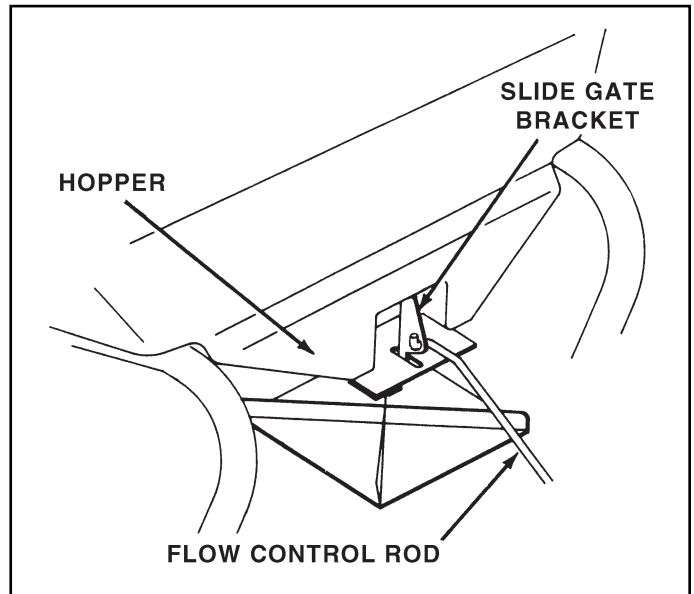

FIGURE 10
18. Hook the free end of the flow control rod through the hole in the slide gate bracket located near the bottom of the hopper. See figure 10.